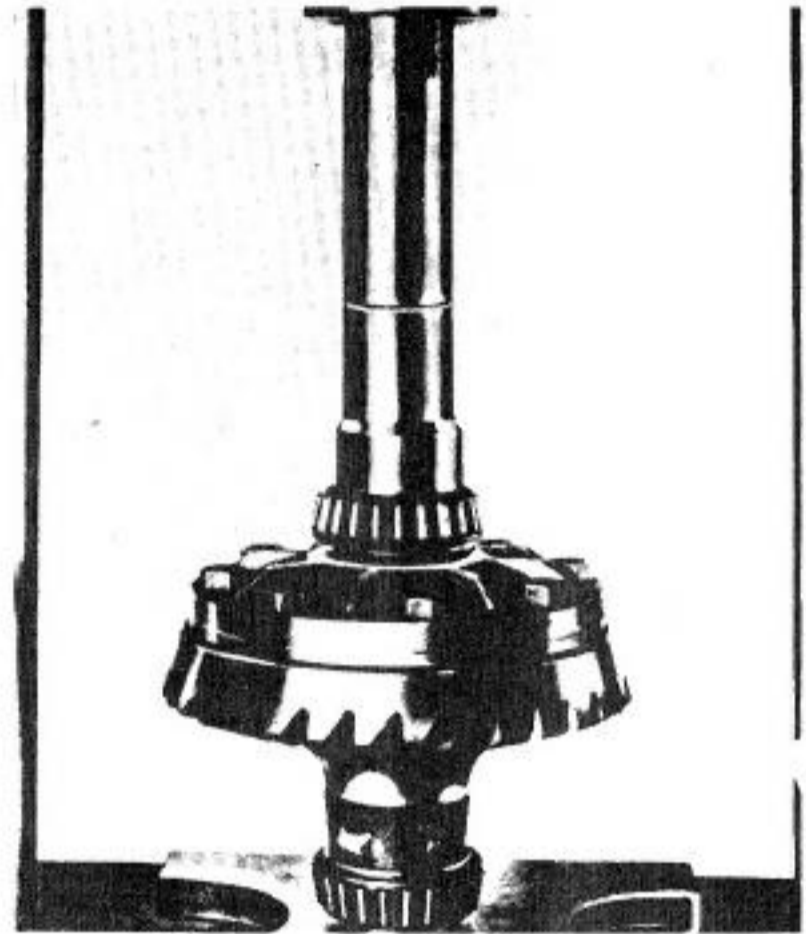

Fig. 11-24. Pressing heated inner bearing races home on the differential.
- Heat the two tapered-roller bearing inner races to 100°C (212°F) and seat them on the cover and housing. Fig. 11-24 shows the press setup. Apply a pressure of 3 tons (2721 kg).